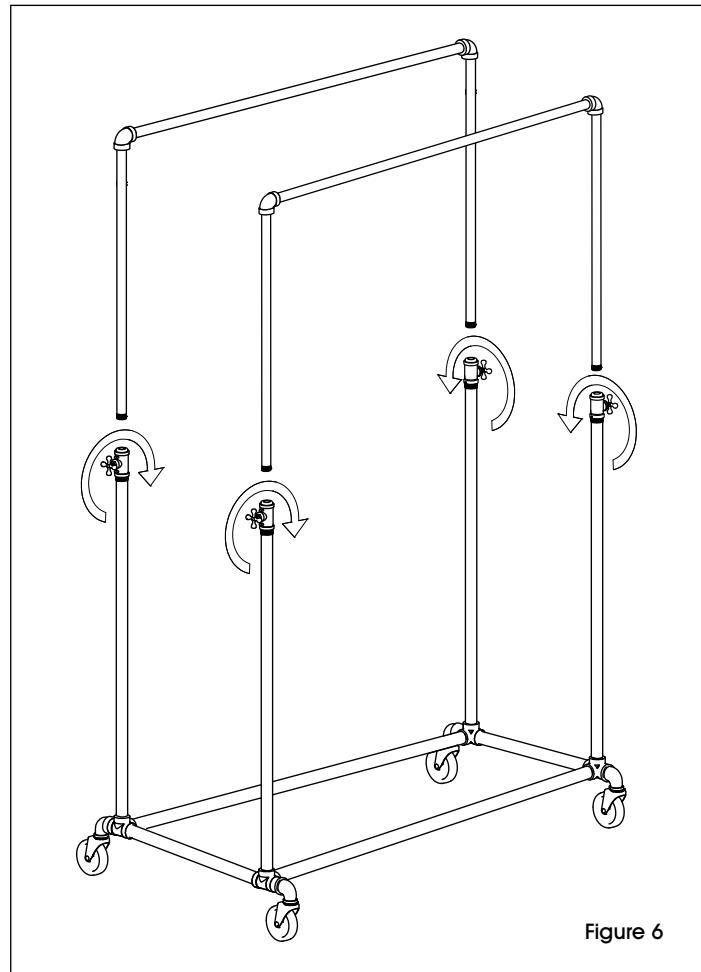

Figure 6
6. Loosen adjustable connectors and insert hangbars with top uprights from step 5. Drop to desired height and lock into position by retightening connectors. (See Figure 6)